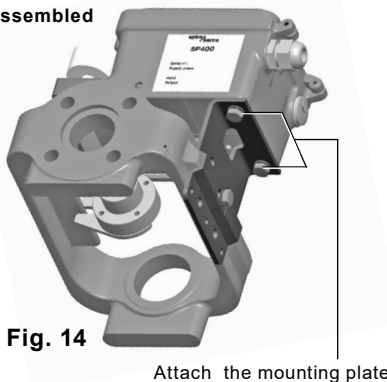

Fig. 14
7.2 3-port valves (with travel setting (TRAVL) 0 - 100%, refer to Figures 14 and 15)